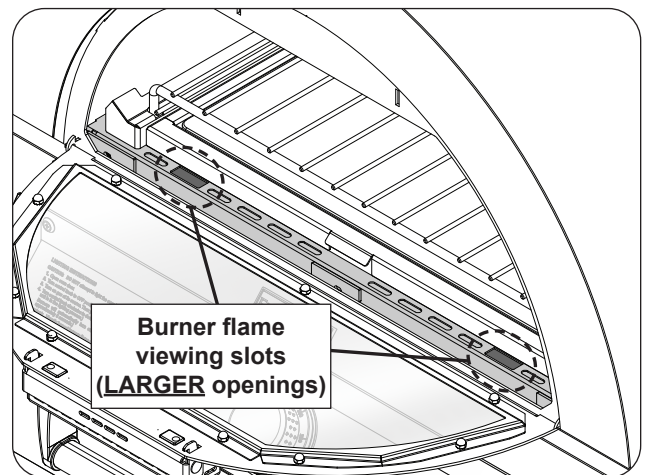

Fig. 29-2 Burner flame viewing slots
**Important:** Visually inspect the burner flames via the two rectangular flame viewing slots (see Fig. 29-2).
**CAUTION:** If the burners do not light within ten (10) *seconds* of turning on the control knob, turn it to the **OFF** position. **WAIT FIVE (5) MINUTES** before repeating step 4. If you smell gas, follow the instructions on the cover of this manual. If the burners still do not light after several attempts, turn the system **OFF** and contact a qualified professional service technician.